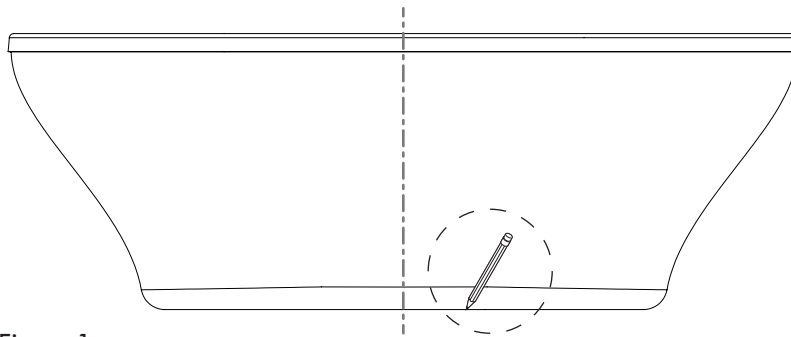

Figure 1
4. Using an erasable pencil or marker, trace the outline of the base of the tub on the floor. (See Figure 1).